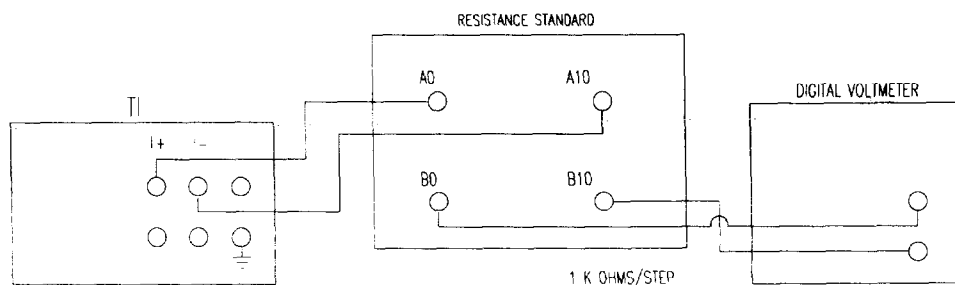

Figure 7.
4.4.8 Connect the equipment as shown in Figure 7.
4.4.26 Reconnect the equipment as shown in Figure 7 substituting the SR1010-10 Ω box for the SR1010-1 k Ω box.